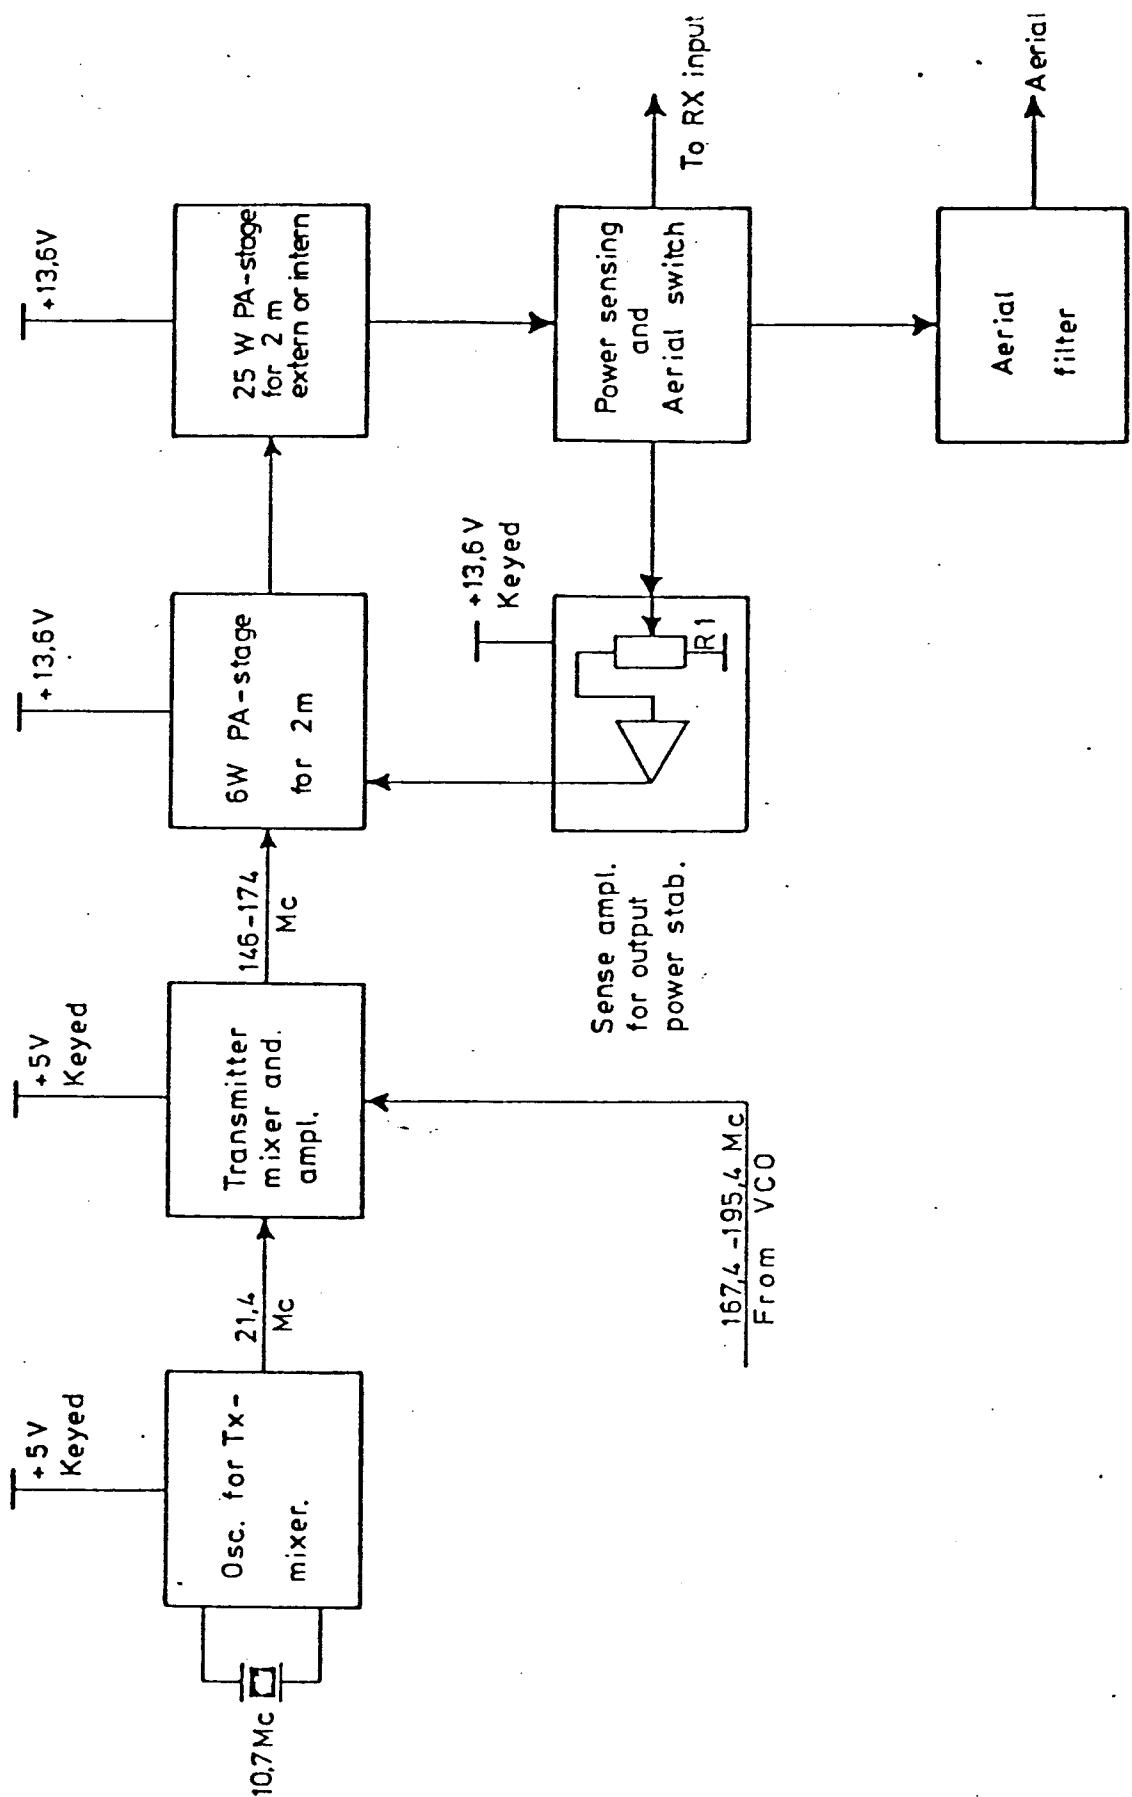

Fig. 2
#### TRANSMITTER (Fig. 2)
- The two cascaded counters IC 2 and IC 3 count down from 168. When the counters reach zero a borrow pulse is generated and used to preset the number 168, thus starting a new count cycle. The very narrow borrow pulses with a repetition rate of 25 kc are used as input to the frequency-phase comparator IC 4. The comparator output voltage  $V_1$  (Fig. 2) can be seen on a test point TP 1. To suppress the 25 kc ripple on the comparator output voltage Q 3 is connected as an active lowpass filter. IC 5 is for DC-amplification.